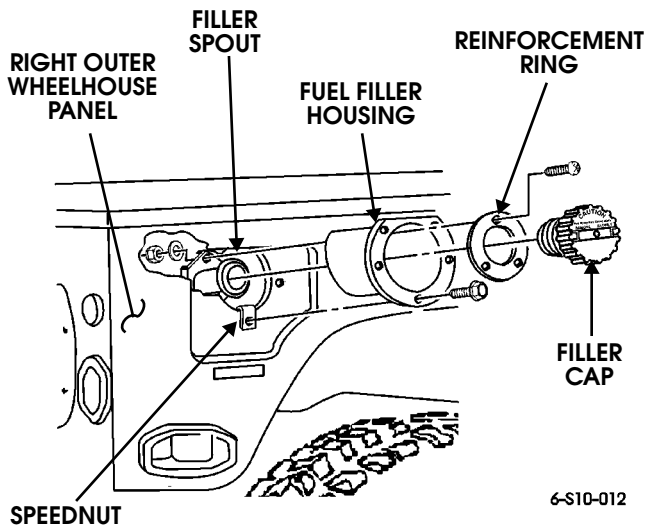

Figure 10-127: Fuel Filler Housing Auxiliary Fuel Tank
2. Remove filler cap from filler spout (Figure 10-127).